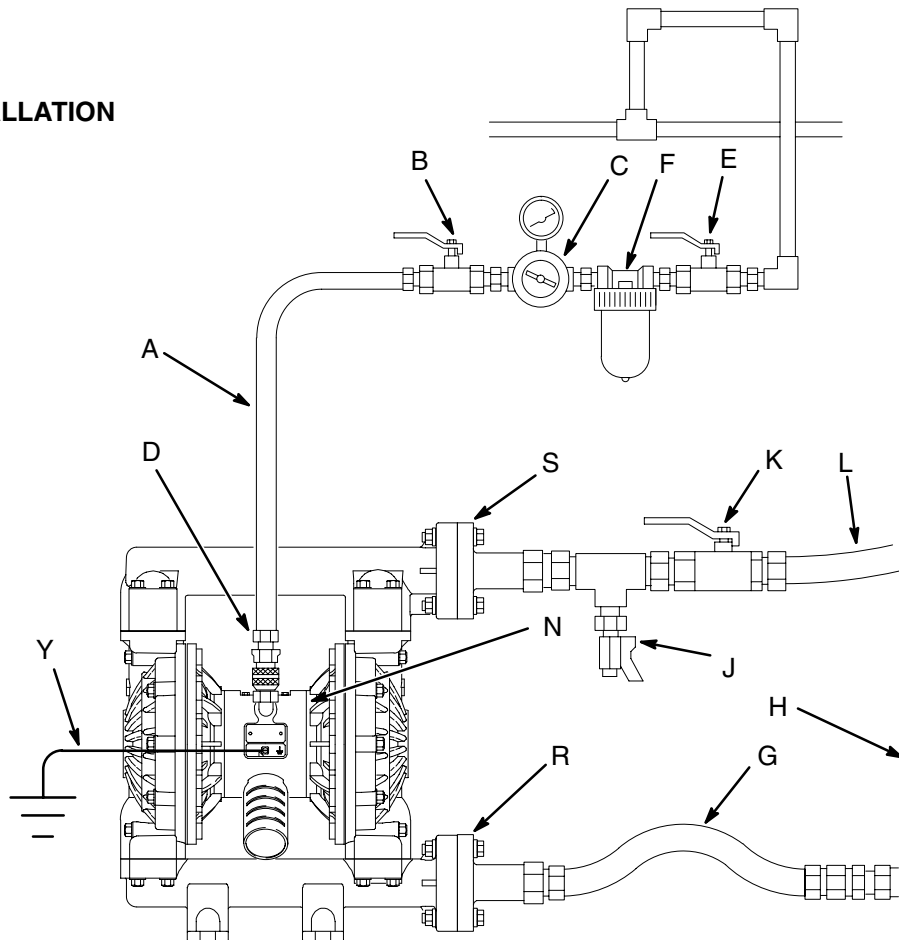

Fig. 2
1. The Typical Installation shown in Fig. 2 is only a guide for selecting and installing system components. Contact your VERDER Customer Service for assistance in planning a system to suit your needs.
A bleed-type master air valve (B) is required in your system to relieve air trapped between this valve and the pump. Trapped air can cause the pump to cycle unexpectedly, which could result in serious injury, including splashing in the eyes or on the skin, injury from moving parts, or contamination from hazardous fluids. See Fig. 2.
1. Install the air line accessories as shown in Fig. 2. Mount these accessories on the wall or on a bracket. Be sure the air line supplying the accessories is electrically conductive.
- a. Install an air regulator (C) and gauge to control the fluid pressure. The fluid outlet pressure will be the same as the setting of the air regulator.
- b. Locate one bleed-type master air valve (B) close to the pump and use it to relieve trapped air. See the **Warning** at left. Locate the other master air valve (E) upstream from all air line accessories and use it to isolate them during cleaning and repair.
- c. The air line filter (F) removes harmful dirt and moisture from the compressed air supply.
2. Install an electrically conductive, flexible air hose (A) between the accessories and the 1/2 npt(f) pump air inlet (N). See Fig. 2. Use a minimum 13 mm ID air hose.
3. Screw an air line quick disconnect coupler (D) onto the end of the air hose (A); be sure the coupler porting is large enough to not restrict the air flow, which will affect pump performance. Screw the mating fitting into the pump air inlet snugly. Do not connect the coupler (D) to the fitting until you are ready to operate the pump.
### KEY FOR FIG. 2
A fluid drain valve (J) is required to relieve pressure in the hose if it is plugged. The drain valve reduces the risk of serious injury, including splashing in the eyes or on the skin, or contamination from hazardous fluids when relieving pressure. Install the valve close to the pump fluid outlet. See Fig. 2.
1. The pump fluid outlet (S) is a 1–1/2" raised face flange. Refer to **Flange Connections** on page 8.
2. Install a fluid drain valve (J) near the fluid outlet. See the **Warning** above.
3. Install a shutoff valve (K) in the fluid outlet line.